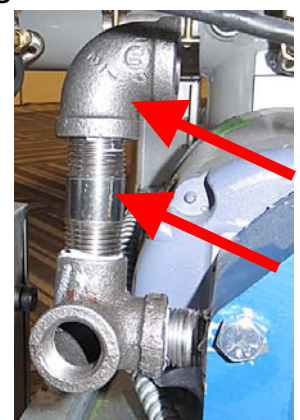

Figure 24
26. Apply Loctite to both ends of the 2" nipple (8130298). Insert the nipple into the top of the elbow, attached to the pump, in the previous step (see Figure 24).
27. Attach the 90° elbow (8130062) to the top of the nipple in the previous step. Tighten and orient as shown (see Figure 24).